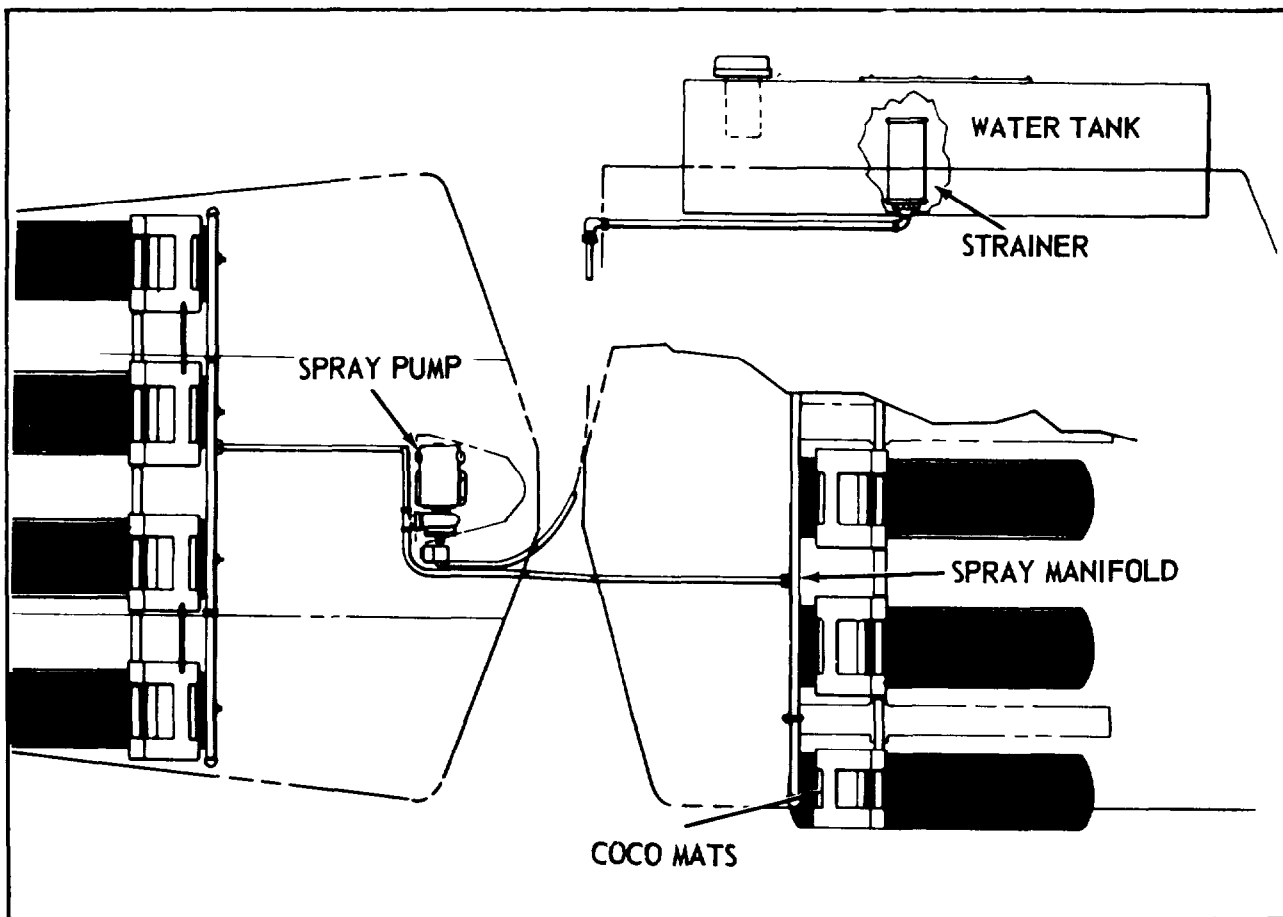

FIGURE 11-2. PRESSURE WATER SPRAY SYSTEM.
**11-5. DESCRIPTION (see figure 11-2).**
11-18. Located directly below the floor plate are the water spray pump and motor (see figure 11-2).